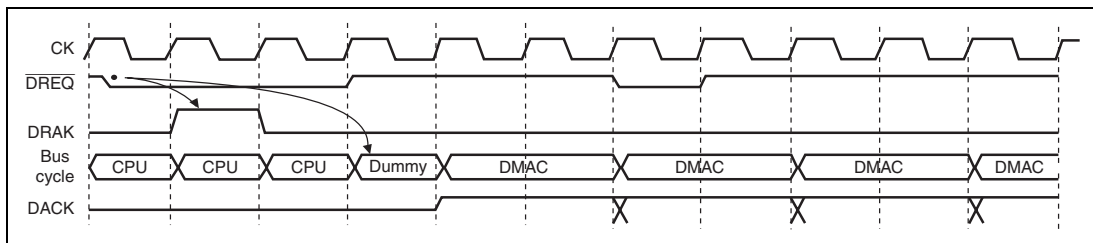

**Figure 10.23 Burst Mode, Single Address and Edge Detection**
**Burst Mode, Single Address, and Edge Detection:** In burst mode with single address and edge detection,  $\overline{\text{DREQ}}$  sampling is conducted only on the first cycle. In figure 10.23, a dummy cycle is inserted, at the earliest, three cycles after the timing for the first sampling. During this period, data is undefined, and DACK is not output. Nor is the number of DMAC transfers counted. Thereafter, DMAC transfer continues until the data transfer count set in the DMATCR has ended.  $\overline{\text{DREQ}}$  sampling is not conducted during this period. Therefore, DRAK is output on the first cycle only.